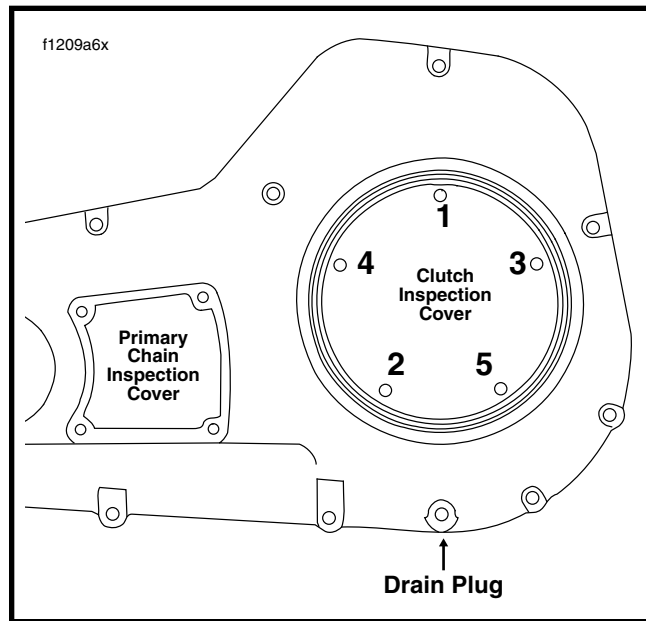

Figure 29. Primary Chaincase Cover
1. Remove magnetic drain plug at bottom of primary chaincase cover and drain lubricant into a suitable container. See Figure 29.
6. Install the five allen head socket screws to secure the clutch inspection cover to the primary chaincase cover. Alternately tighten screws to 7-9 ft-lbs (10-12 Nm) in the pattern shown in Figure 29.
1. See Figure 29. On the left side of the vehicle, remove the four screws with flat washers to free the primary chain inspection cover from the primary chaincase cover.